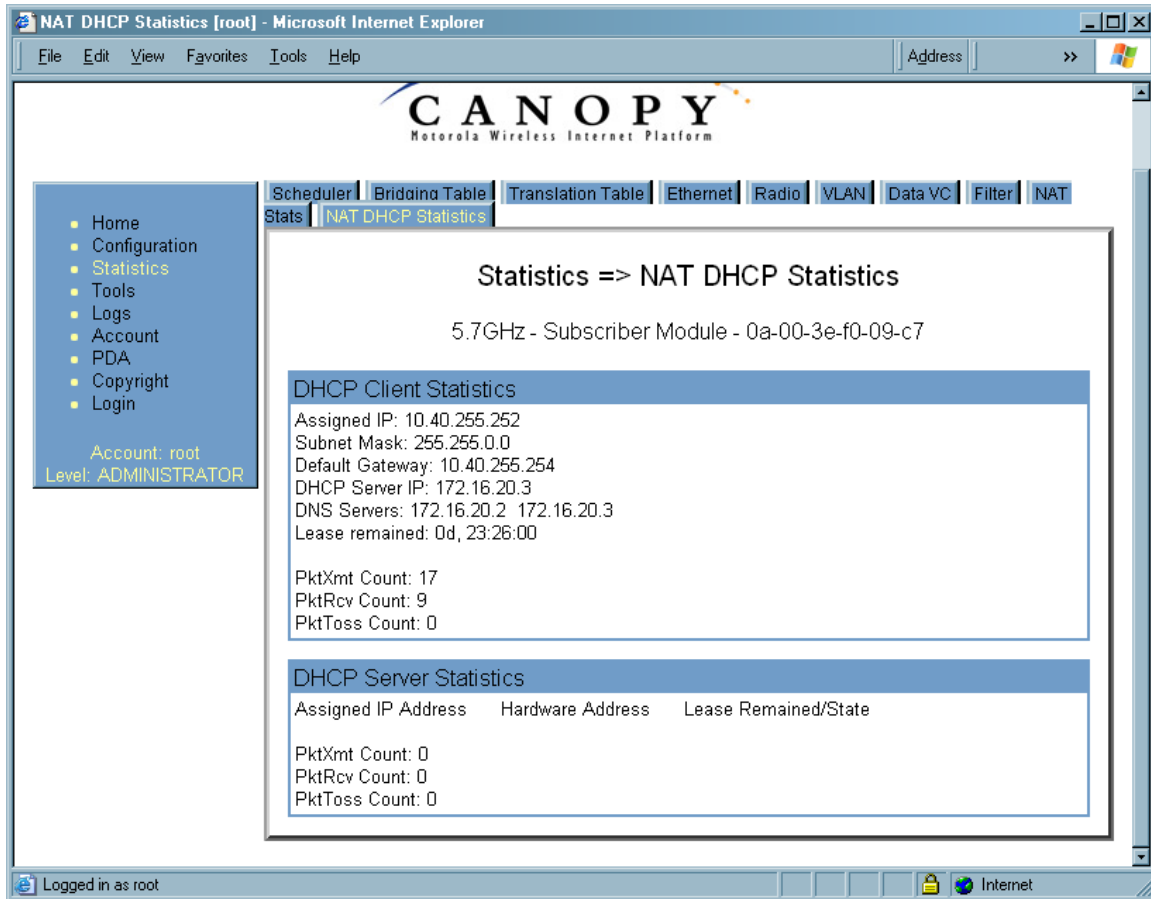

Figure 179: NAT DHCP Statistics tab of SM, example
- NOTE:** An example of this tab is shown in Figure 179.